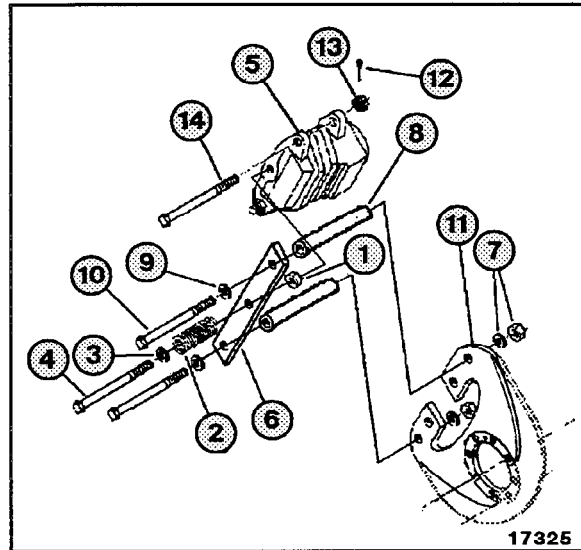

Figure 156
- 1) Slide caliper (5, Figure 156) over parking brake disc and align mounting holes with parking brake bracket (11). Install a bolt (14), nut (13) and cotter pin (12), in each end of caliper.
- 3) Slide washer (9, Figure 156) on bolt (10). Repeat for other bolt. Slide a bolt in each end of support bar (6). Slide one spacer (8) on each bolt. Position bolts in mounting bracket (11). Install flat washer and nut (7) on each bolt. Only finger tighten nuts at this time.
- 4) Install bolt (4, Figure 156) in center hole of support bar (6), far enough to install jam nut (1) on bolt, half way up threads. Screw bolt into threaded hole in caliper (5), until jam nut makes contact. Tighten jam nut. Align support bar and tighten its mounting hardware so bolt (4) passes freely through center hole of bar. Tighten two bolts (10) to 45 lbf ft (6.2 kg•m).
- 5) Loosen jam nut (1, Figure 156) and remove bolt (4) from caliper (5). Remove jam nut from bolt and remove bolt from support bar (6). Slide washer (3) and spring (2) on bolt. Place bolt back into center hole of support bar. Install jam nut on bolt, positioning it at top of threads. Install bolt in threaded hole in caliper.
- 6) Turn bolt (4, Figure 156) in until washer (3) and spring (2) just touches support bar (6) and bolt head. Spring should be at its free length (no compression). Then turn bolt in three more revolutions and lock jam nut.